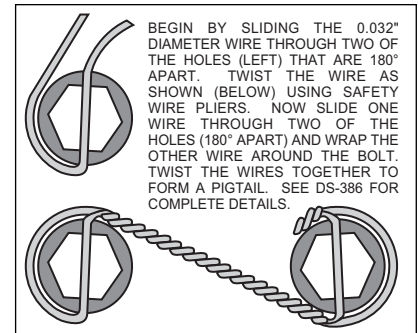

Figure 3. Safety Wire Diagram
- Insert one sleeve (2) each into the holes on the top and bottom of the spindle “ears” where the OEM caliper bracket was removed. Apply red *Loctite*® 271 to the caliper mounting bracket bolt threads (4) before installation of the caliper mounting bracket (1). Install the caliper mounting bracket (1) with the threaded inserts and the beveled bolt holes facing the outside of the vehicle. Slide bolt (4) through lock washer (3) and shim (15) into the previously installed insert (2) from the backside of the spindle. Finger tighten. Repeat for the lower mounting holes. Torque bolts to 47 ft-lb. **NOTE:** Be sure the heads of the caliper bracket (1) insert nuts are facing outward toward the wheel.
- With the larger I.D. side of the rotor (5) facing away from the hat (6), bolt rotor (5) to hat (6) through the backside of the rotor using washers (7) and bolts (8). Torque bolts (8) to 120-144 **in-lb**. Safety wire bolts (8) using standard 0.032 inch diameter stainless steel safety wire as shown in Figure 3. Please refer to Wilwood’s data sheet DS-386 (available at www.wilwood.org/ds386.pdf) for complete safety wire installation instructions. Slide the rotor/hat assembly onto the spindle. Install a couple of lug nuts (finger tighten) to keep the rotor/hat assembly in place while continuing with the installation.